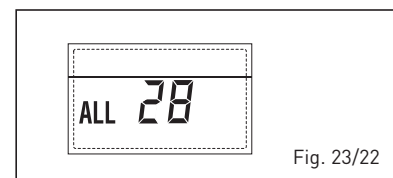

Fig. 23/22
– **ANOMALY NUMBERS RELATED BOARD “ALL 29” (fig. 23/23)**